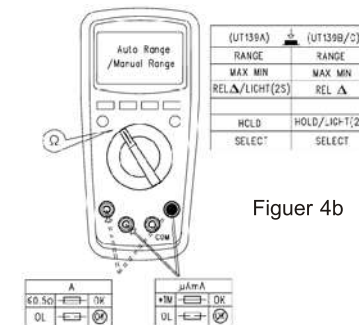

Figure 4b
- \*. By using the resistance measurement function, it is allowed to make self-checking of the built-in fuse, see (Figure 4b).